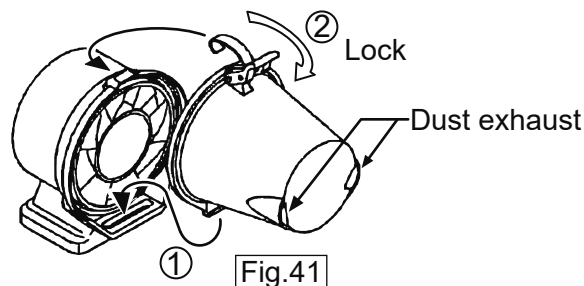

Fig.41
- Set the dust pot to air cleaner, then fasten the latch of it securely. (Fig. 41)